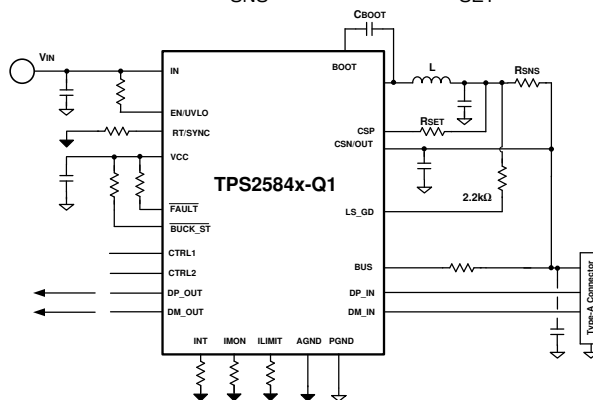

Figure 44. Buck Average Current Limit
- Buck Average Current Limit Figure 44: